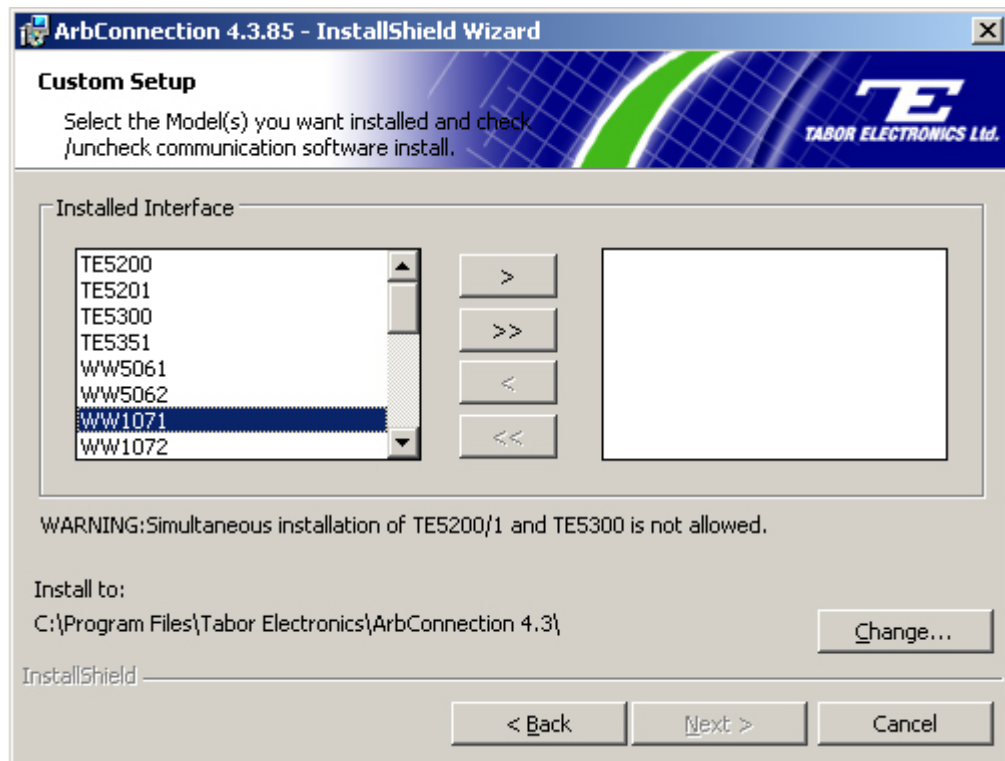

Figure 2-7: Installed Interface Chosen and Selected
7. Select the model(s) you want installed and where you would like them installed (Figures 2-7 and 2-8).